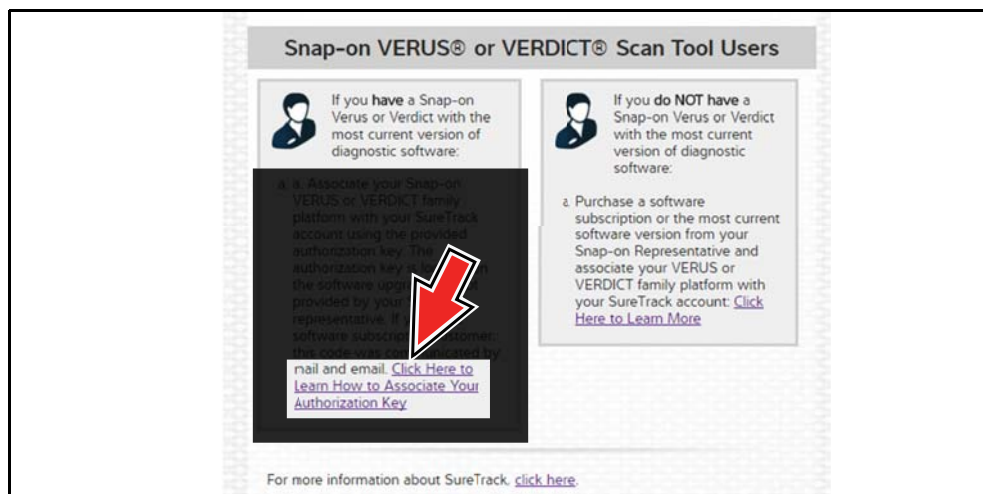

Figure 5-20
When your SureTrack account has expired, and you try to login you are directed to an information window (Figure 5-20).
2. Scroll down and select the link shown in (Figure 5-20)